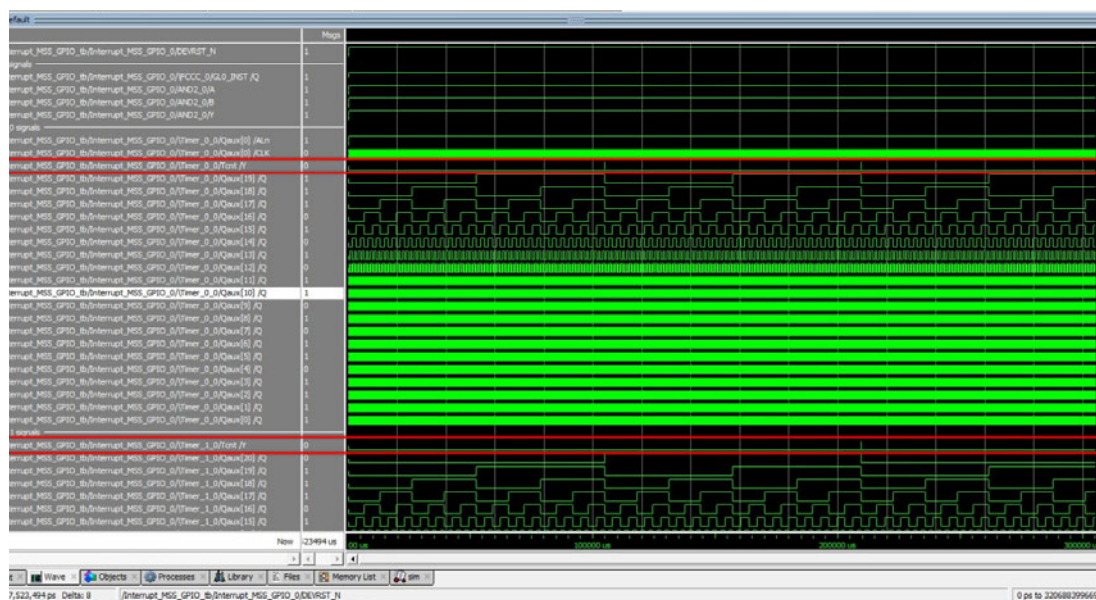

Figure 5-12 • Post-Layout Simulation Window after 300 ms of simulation time
10. In ModelSim, let the simulation run for 100 - 300 ms of run time. This may take a few hours to complete. You may want to stop the simulation (**Simulate > Break**) after you have verified that the lower bits of the two counters are counting/toggling correctly in the waveform window. Use the zoom buttons to change the scale and view details in the waveforms (Figure 5-12).
Figure 5-12 shows the waveform window after 300 ms of simulation runtime.